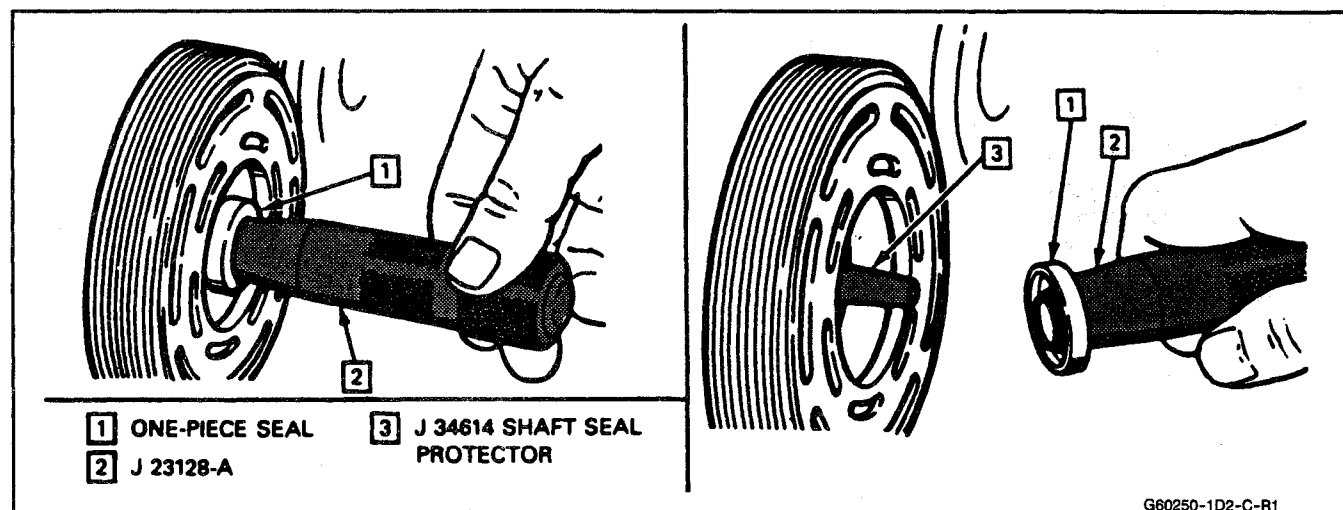

Fig. 22 Removing or Installing Shaft Seal
6. Fully engage the knurled tangs of Seal Remover-Installer J 23128-A into the recessed portion of the Seal by turning the handle clockwise. Remove the Seal from the compressor with a rotary-pulling motion (Fig. 22). Discard the seal. The handle must be hand-tightened securely. Do not use a wrench or pliers.
3. Dip the new seal in clean 525 viscosity refrigerant oil and assemble seal to Seal Installer J 23128-A, by turning handle clockwise. The stamped steel case side of the lip seal must be engaged with knurled tangs of installer so that flared-out side of lip seal is facing and installed towards the compressor. Install seal protector J 34614, in the seal lip and place over the compressor shaft, Figure 22, and push the seal in place with a rotary motion or place the seal protector J 34014 over end of compressor shaft, Figure 22, and slide the new